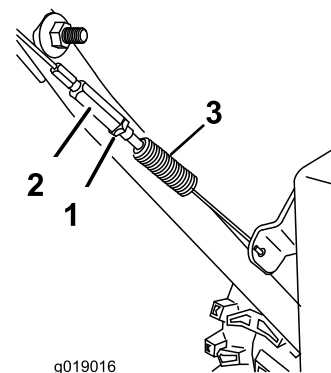

Figure 31
1. Loosen the jam nut (Figure 31).
2. Loosen or tighten the turnbuckle to adjust the pin until it is the proper gap from the front edge of the slot (Figure 31).
3. Tighten the jam nut (Figure 31).